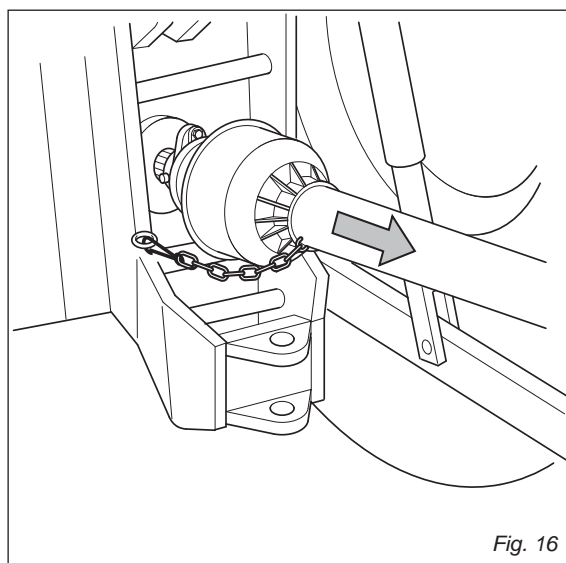

Fig. 16
4. Unhook the PTO shaft (, Fig. 16) from the tractor and put in on the special hook.